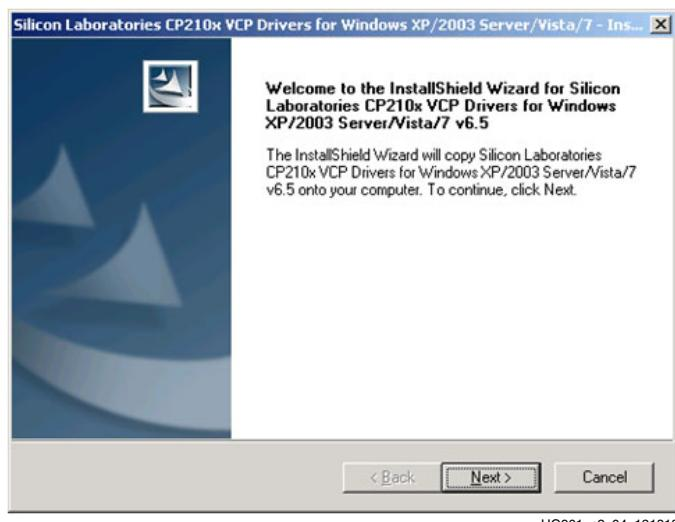

Figure 2-4: UART Cable Driver Installation
1. Run the downloaded executable UART-USB driver file, listed in Built-In Self-Test Setup Requirements, page 8. This enables UART-USB communications with a control PC (see Figure 2-4).